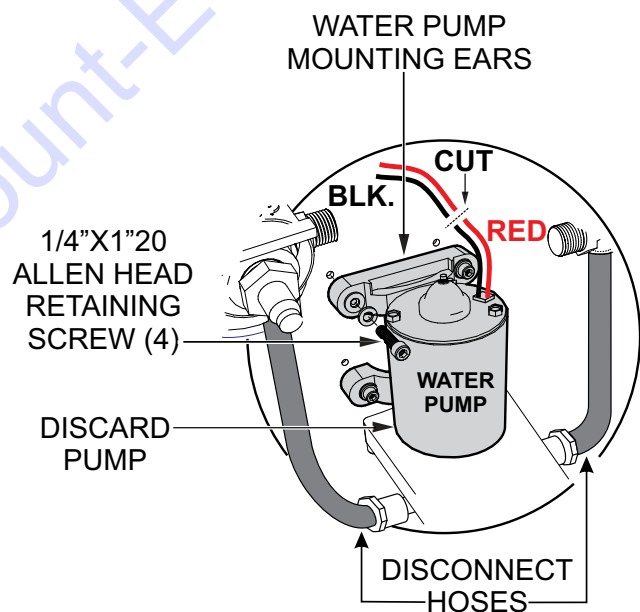

Figure 4. Pump Removal
3. Cut the **RED** and **BLACK** wires from the water pump as shown in Figure 4.
4. Disconnect the water hoses (Figure 4) on the inlet and outlet ports on the pump body.